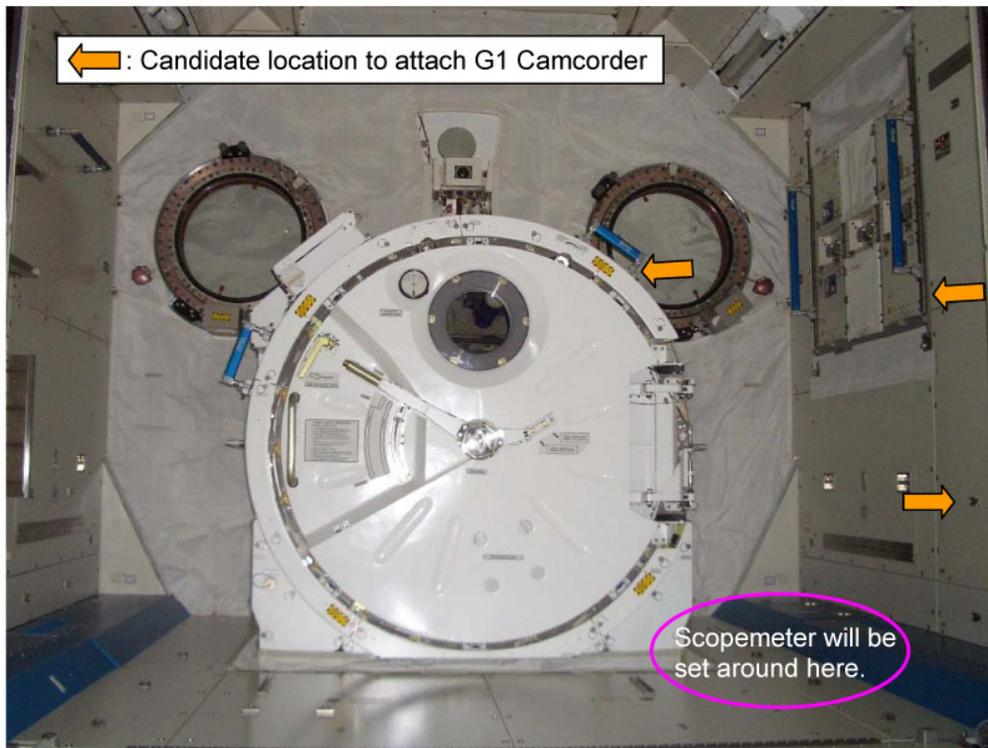

Figure 2. G1 Camcorder Installation Location (Candidate).
- 1.1.1 Attach G1 Camcorder Fixture to seat tracks around JEM Airlock to face Scopemeter referring to Figure 2.